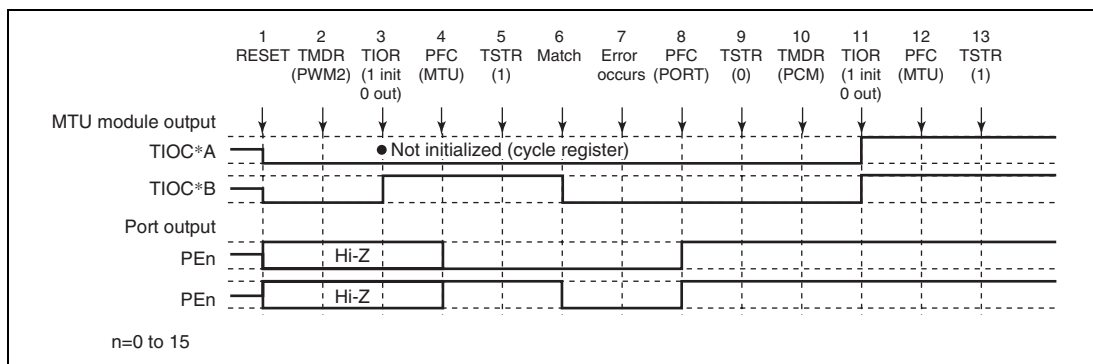

**Figure 11.100 Error Occurrence in PWM Mode 2, Recovery in Phase Counting Mode**
**Operation when Error Occurs during PWM Mode 2 Operation, and Operation is Restarted in Phase Counting Mode:** Figure 11.100 shows an explanatory diagram of the case where an error occurs in PWM mode 2 and operation is restarted in phase counting mode after re-setting.